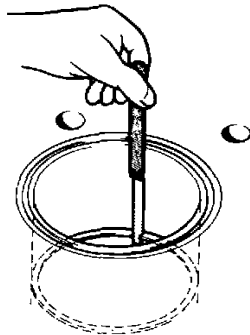

Fig. 58. Checking piston ring gap
Check the piston ring gap according to fig. 58. When measuring the piston ring gap, push the ring down below the lower turning point with the help of a piston. If the gap is as much as 1.5 mm (0.06") or more, then the rings must be replaced. Check even the new piston ring gap. Concerning dimensions, see "Technical Data".
6. Fit the new piston rings in the cylinder bore (fig. 58).